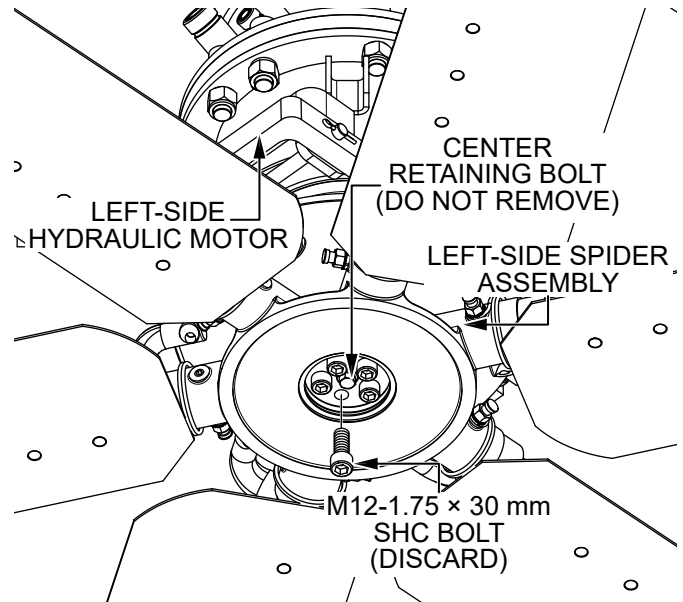

Figure 74. Remove Left-Side Spider Bolts
2. Remove and discard the five existing M12-1.75 × 30 mm SHC bolts (Figure 74) securing the left-side spider assembly to the bottom of the left-side hydraulic motor.